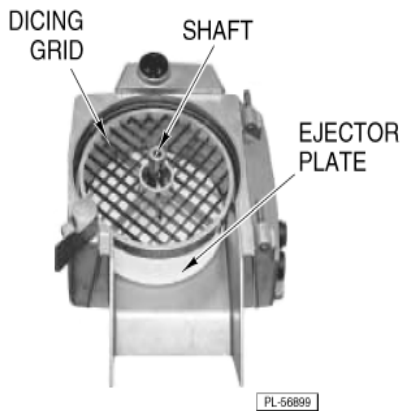

Fig. 3
4. Center the ejector plate on the shaft and, with the slots in the ejector plate aligned with the pins in the coupling, push the ejector plate down to the bottom of the shaft and onto its coupling (Fig. 3). Turn counterclockwise to lock.
5. If dicing or chopping insert a dicing grid, and turn it until the holding pin fits into the notch (Fig. 3).